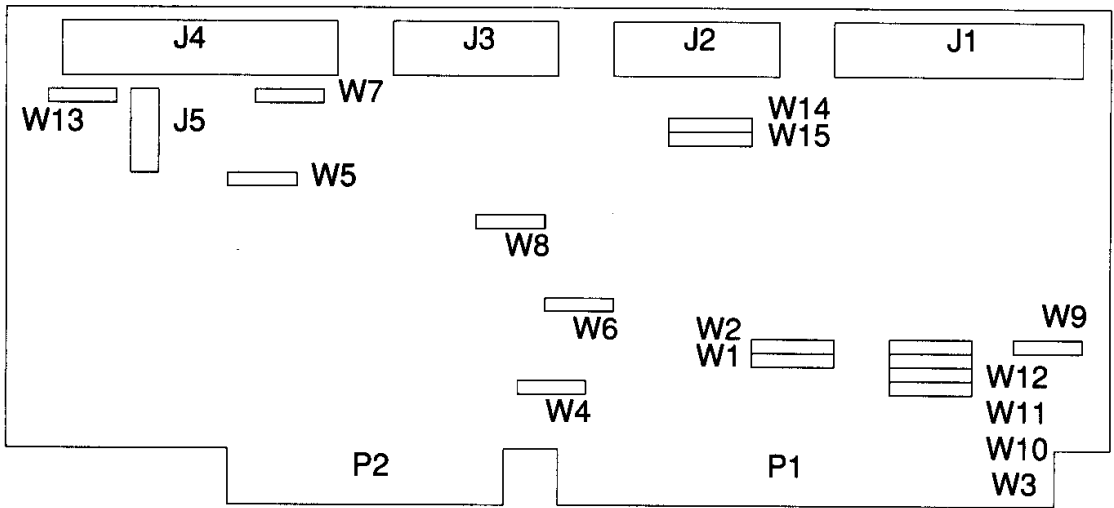

FIGURE 1. CONTROLLER MODULE LAYOUT
1. Verify the controller jumper settings. Modification of the standard factor settings on the controller is rarely necessary. Modify the jumpers only under the direction of a qualified individual; i.e., your dealer. Figure 1 illustrates the jumper locations. Table 1 lists the jumper default settings for the WDI007A-WA2 and the WDI007A-WAH. Table 2 provides the various address select ranges and corresponding jumper settings.